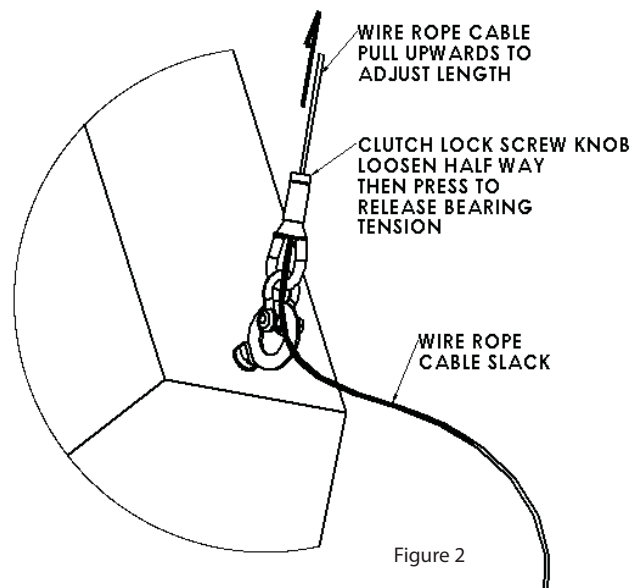

Figure 2
Step 3: Adjust the length of the cable by loosening the knob on the clutch lock. Press the knob to release the bearing and pull the cable to desired length up to the other attachment point (Figure 2).